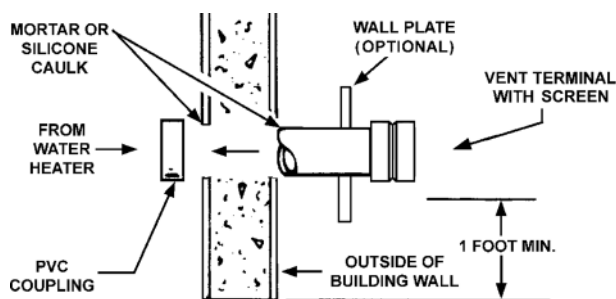
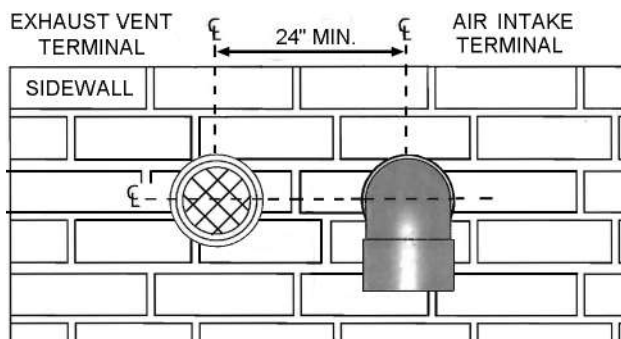
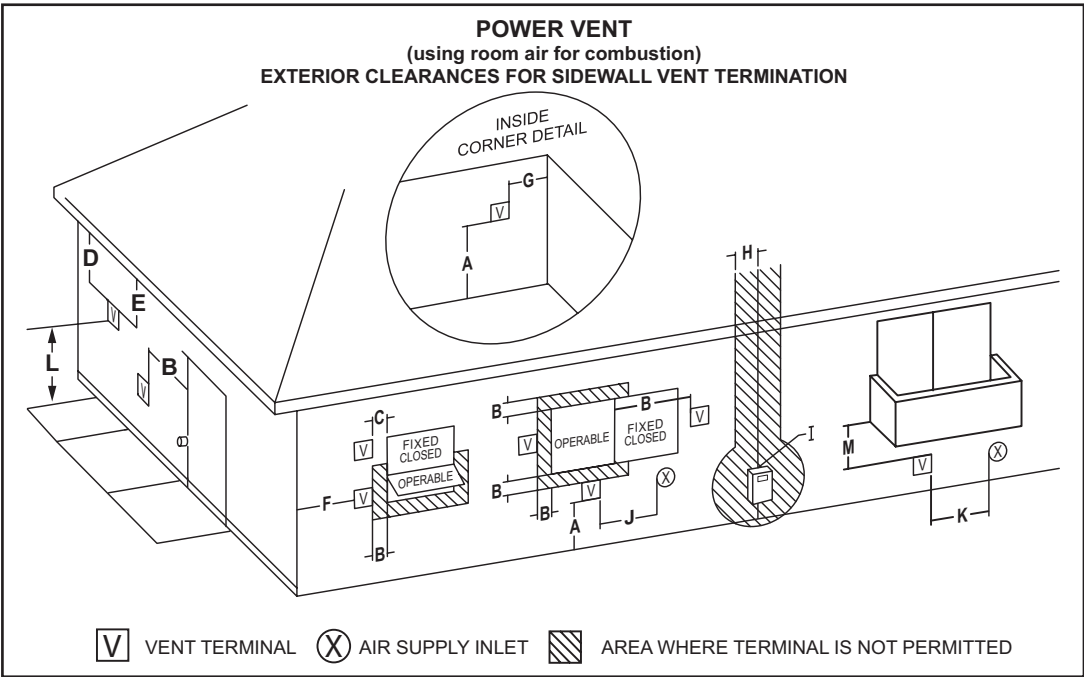
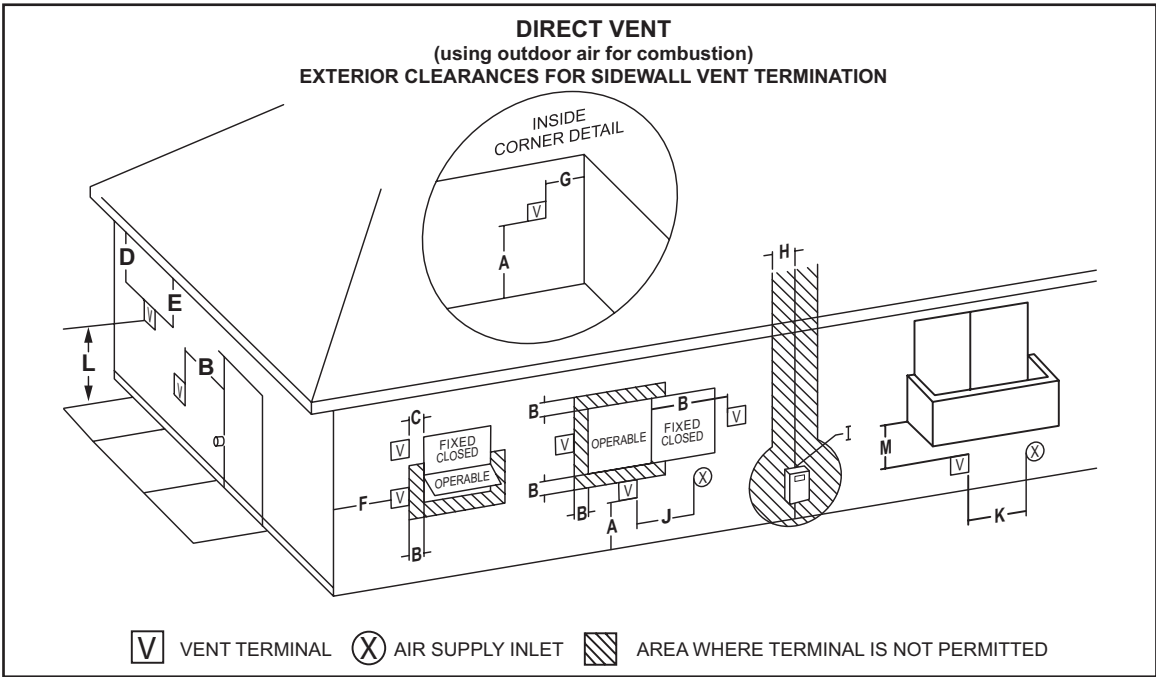

Figure 12: VENT TERMINATION
Figure: 13A
Figure: 15
Figure: 16
2. Through-the-Wall Termination - horizontal vent termination directly through an outside wall, see "Figure 12: VENT TERMINATION" on Page 26.
Direct venting into dead spaces such as alleys, atriums, and inside corners can cause recirculation of flue gases. Recirculation of flue gases will cause sooting, and icing of the combustion air intake during severe cold weather. To prevent the recirculation of flue gases, maintain as much distance as possible between the combustion air intake and the exhaust vent terminal refer to "Figure: 15" and "Figure: 16" on Page 28 & Page 29 respectively.
The first step is to determine where the vent pipe will terminate. See Figures 12, "Figure: 13A", and "Figure: 14". The vent may terminate through a sidewall as shown in Figure 12 and "Figure: 14" or through the roof as shown in "Figure: 15" and "Figure: 16".
The vent system must terminate so that proper clearances are maintained as cited in local codes or the current edition of the Natural Gas and Propane Installation Code (CAN/CSA-B149.1). See "Figure: 15" and "Figure: 16".
Instructions on proper installation through a sidewall are provided in Figures 12, "Figure: 13A", and "Figure: 14".
Cut a length of pipe about 3.5 inches (8.9 cm) longer than the wall thickness at the opening. Glue the vent terminal to this section of pipe. Slide the wall plate over the pipe to stop against the vent terminal. Place a bead of caulking (not supplied) around the gap between the pipe and cover plate. Apply enough to fill some of the gap between the pipe and wall. Place some of the caulking on the back of the plate to hold it against the wall after installation. If the vent pipe is installed up to the wall, with a coupling on the end against the wall opening, the pipe with the vent terminal can be prepared for gluing before inserting through the wall. Slide the pipe through the wall and insert into the coupling on the other side of the wall, making sure that the vent terminal ends up pointed in the correct position, see Figure 12.
- If the air intake pipe is installed up to the wall, with a coupling on the end against the wall opening, the pipe with the air intake terminal can be prepared for gluing before inserting through the wall. Slide the pipe through the wall and insert into coupling on the other side of the wall, making sure that the air intake terminal ends up pointed in the correct position (Figure 13A and Figure 14).